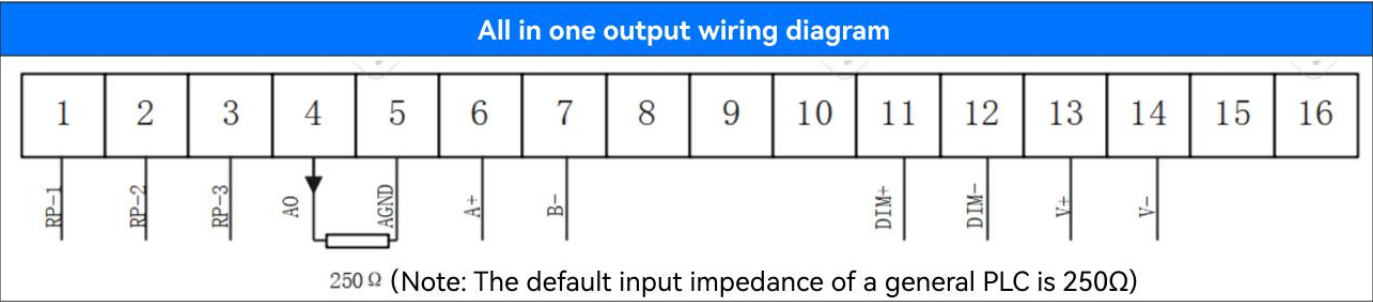
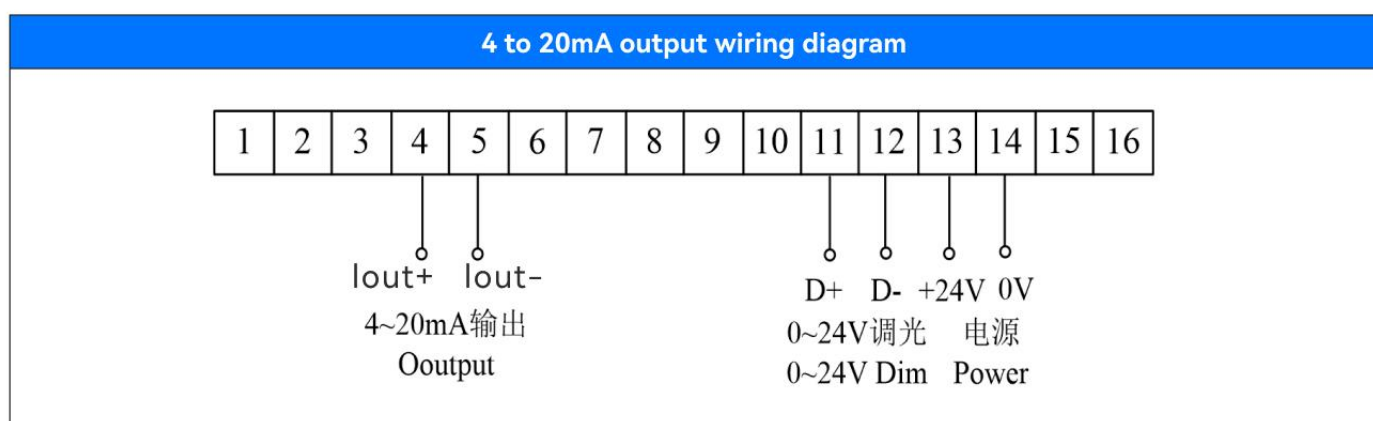

Figure 1.5
Figure 2.4
4. Output signal: The handle can provide a variety of optional output signals for the control system, including the direct output of the potentiometer, 4~20mA, and can also provide passive switch contacts. Please refer to wiring diagram 1.5 for the direct output type of potentiometer and Figure 2.1 for the corresponding relationship. The wiring for 4~20mA output is shown in Figure 2.4.
5. Backlight adjustment mode: the thin film of the handle adopts cold light source design, the brightness can be adjusted, and the dimming mode includes resistor adjustment (in which the dimming mode of the resistor is only suitable for our model VDM-96 dimmer, the resistance value is 2K Ω), 0-24V voltage adjustment, PWM, and the wiring is shown in FIG. 1.5 and FIG. 2.4
3. According to the characteristics of the accessories used in this product, the instantaneous input voltage shall not exceed 20% of the range specified in Figure 1.5 at any time. Avoid excessive instantaneous current and burning accessories.